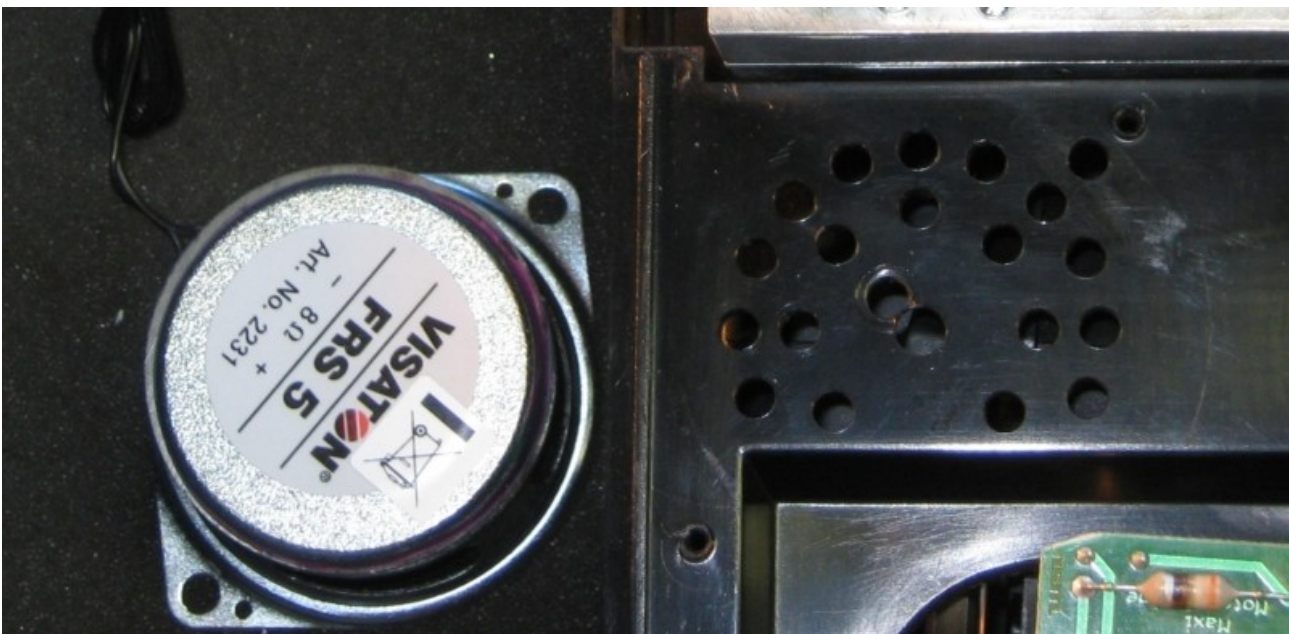

Fig. 6: sound outlet holes
- Drill holes for the sound outlet and mounting holes for loudspeakers using a template (Fig. 6) (drill template in the appendix).